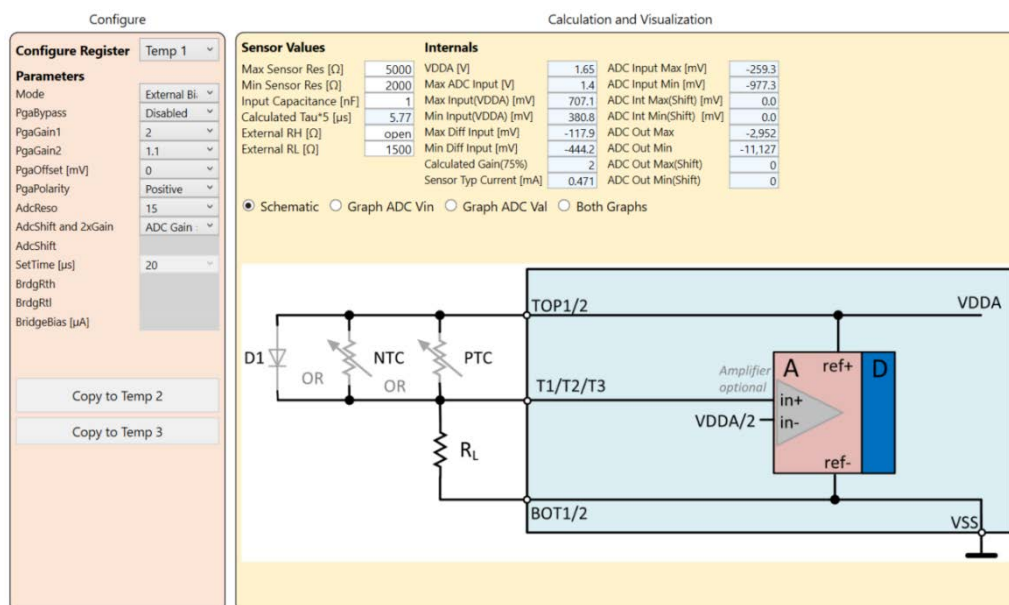

Figure 54. Mode Source External Bias Low
- The diode/NTC/PTC transducer is supplied through an external resistor tied to VDDA (References item 3). This is active when the “External RL” (selectable in the Sensor Values section) is not set to “open” or “0” (Figure 54).